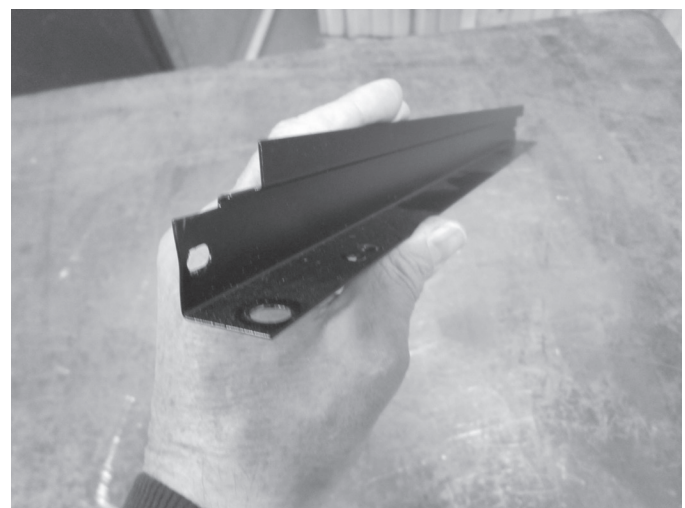

Figure 6 Door Track (4) pieces
6. Screw top and bottom track to appliance with provided 1/2 inch sheet metal screws. Use 6 screws to attach top track and 6 screws to attach bottom track. See Figure 6.